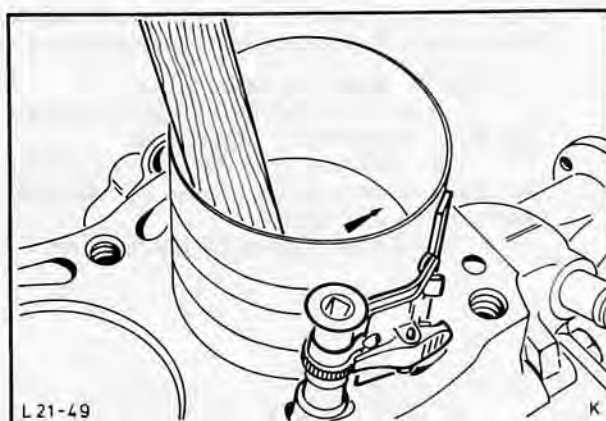

Fig. 106. Fit piston using a ring compressor
42. Compress piston rings with a standard tool (ring compressor), Fig. 106. Slide piston into cylinder using a hammer handle, guiding connecting rod on to big end journal by hand.